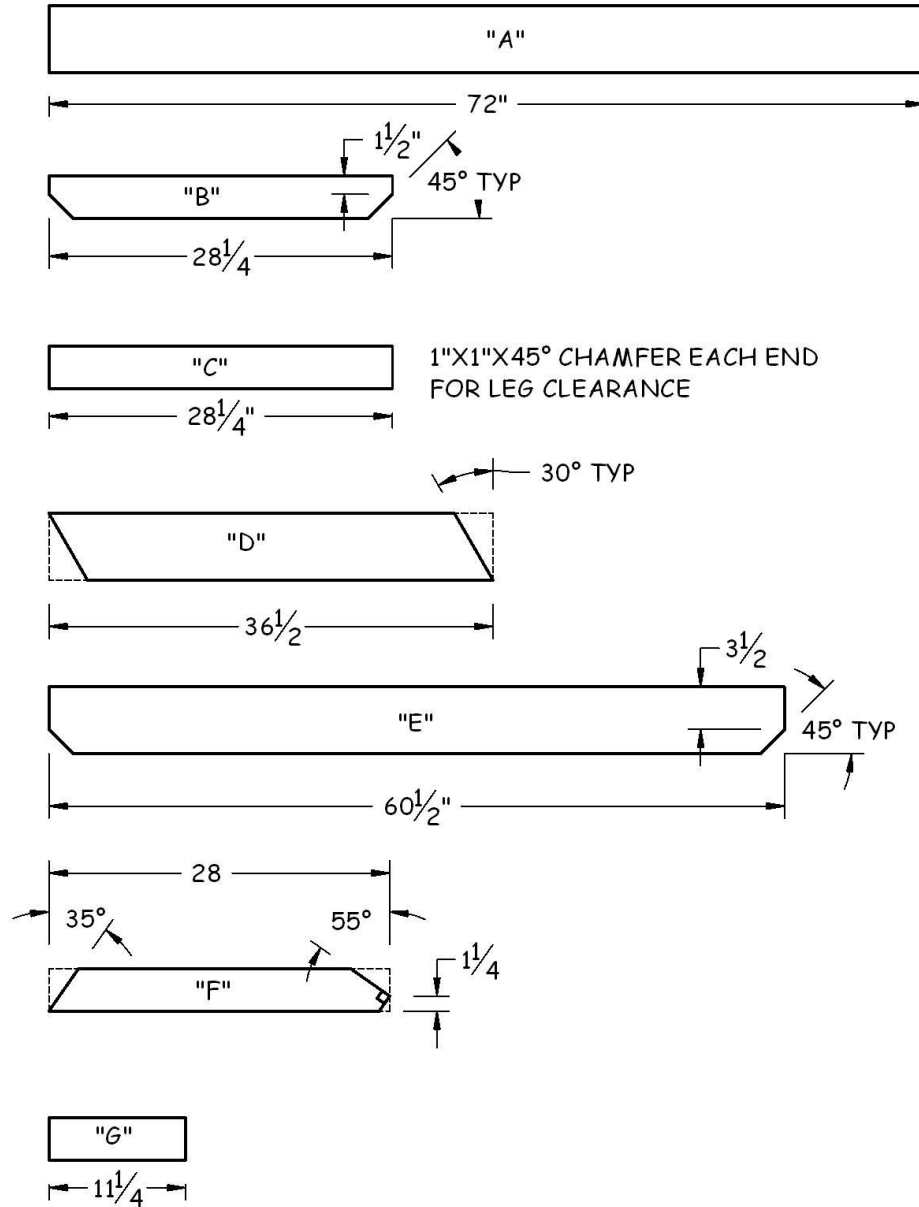

Figure 24-1. Picnic Table Cut Sheet.
1. Cut all pieces required per the cut sheet dimensions (see Figure 24-1).
1. To build one picnic table, the build site must be supplied with seven pieces of 2x6x12' treated lumber and two pieces of 2x4x8' treated lumber, distributed among the seven components listed in Table 24-1. See also Figure 24-1 for cut specifications.